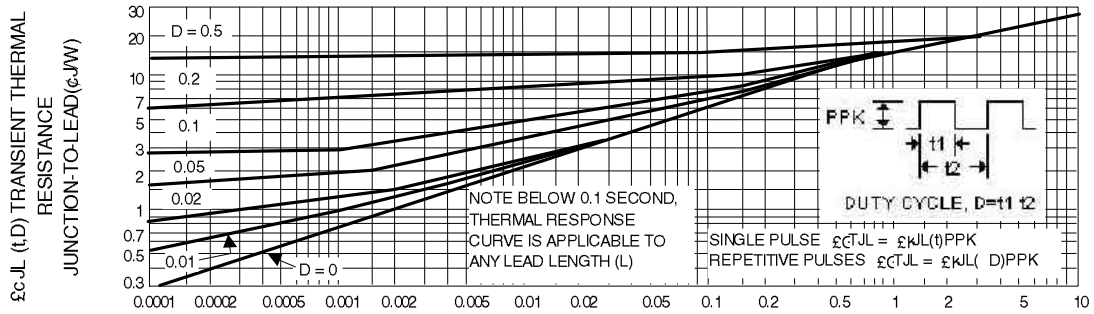
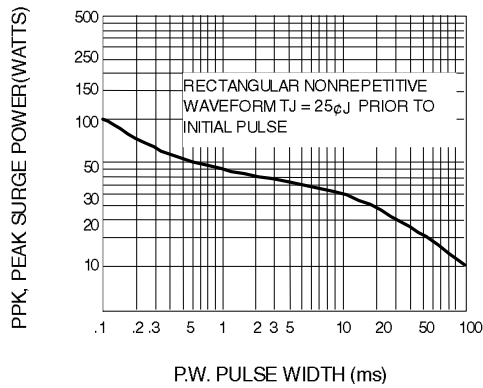
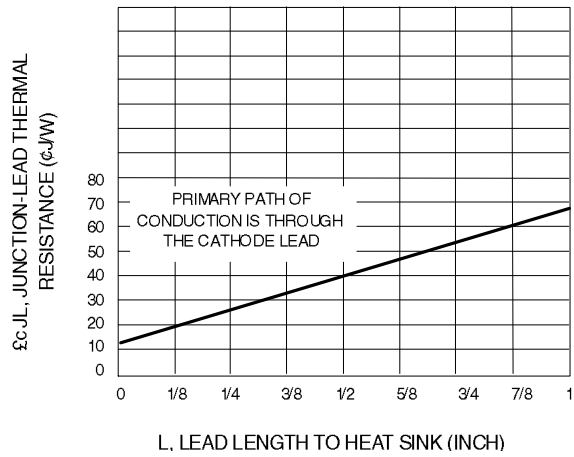

Fig. 2-TYPICAL THERMAL RESPONSE L,
Fig. 3-MAXIMUM SURGE POWER
Fig. 10-TYPICAL THERMAL RESISTANCE
4. SURGE CURRENT (I_r) NON-REPETITIVE - The rating listed in the electrical characteristics table is maximum peak, non-repetitive, reverse surge current of 1/2 square wave or equivalent sine wave pulse of 1/120 second duration superimposed on the test current, I_{ZT}, per JEDEC standards, however, actual device capability is as described in Figure 3.
$\theta_{GT_{JL}}$ is the increase in junction temperature above the lead temperature and may be found from Figure 2 for a train of power pulses or from Figure 10 for dc power.
Data of Figure 2 should not be used to compute surge capability. Surge limitations are given in Figure 3. They are lower than would be expected by considering only junction temperature, as current crowding effects cause temperatures to be extremely high in small spots resulting in device degradation should the limits of Figure 3 be exceeded.